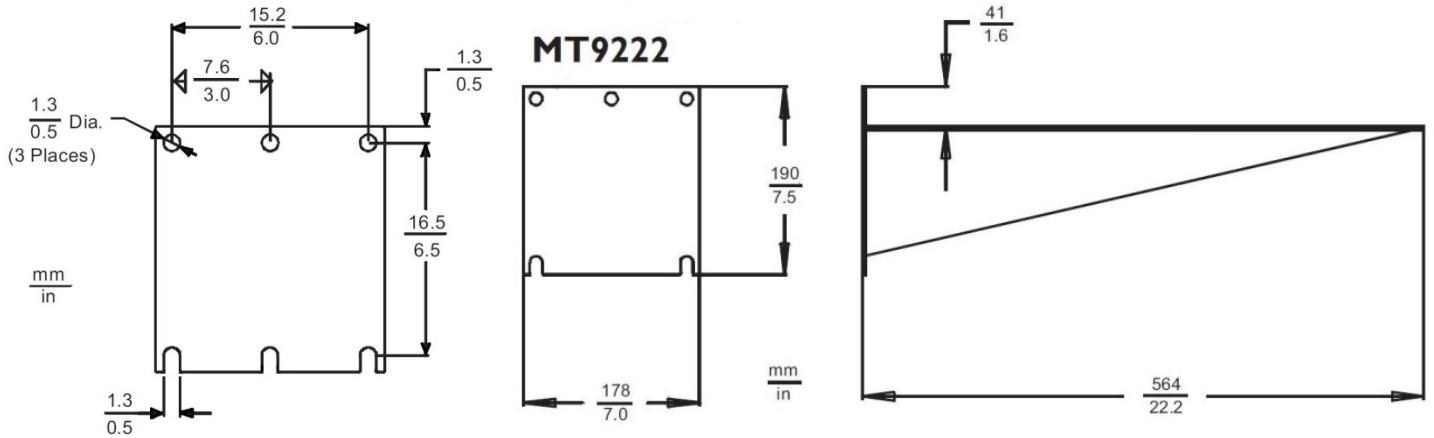

Figure 2 - Wall Mount Dimensions
- 1.3. The bolt-hole pattern and mount dimensions are shown in Figure 2.